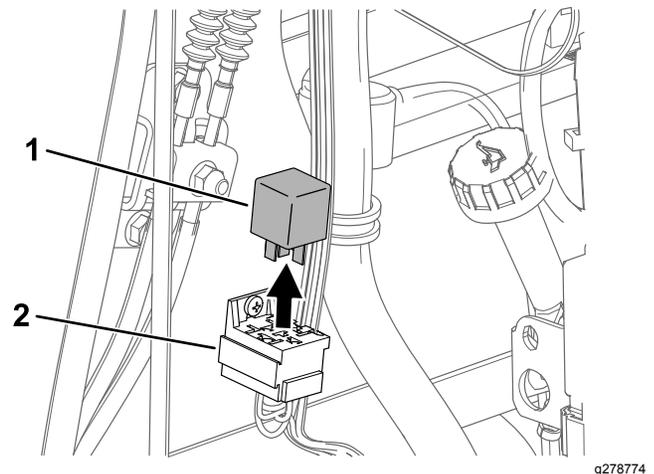

Figure 1
3. Inside the left side of the tower, remove the relay from the connector (**Figure 1**).
5. Install the relay to the connector (Figure 1).